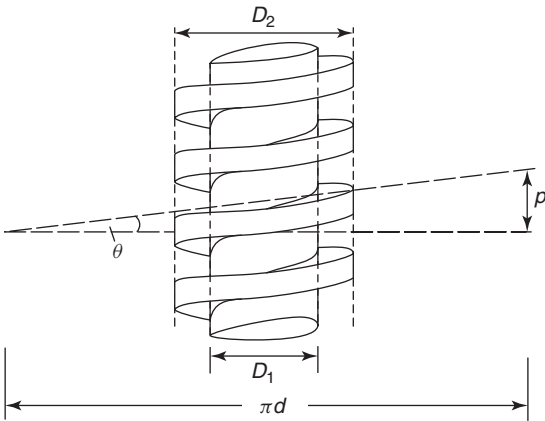

Figure 15.15
Consider the thread of the square-threaded screw jack shown in Figure 15.15.
Let  $p$  be the pitch of the thread, i.e. the axial distance that the weight  $W$  is lifted or lowered when the screw is turned through one complete revolution. From Figure 15.15, the motion of the screw in lifting the weight can be regarded as pulling the weight by a horizontal force  $P$ , up an incline  $\theta$ , where
as shown in Figure 15.15, and
However, from Figure 15.15,
From Figure 15.15, the **actual work done**
- The coefficient of friction on the sliding surface of a screw jack whose thread is similar to Figure 15.15, is 0.24. If the pitch equals 12 mm, and  $D_1 = 42$  mm and  $D_2 = 56$  mm, calculate the efficiency of the screw jack. [24.06%]